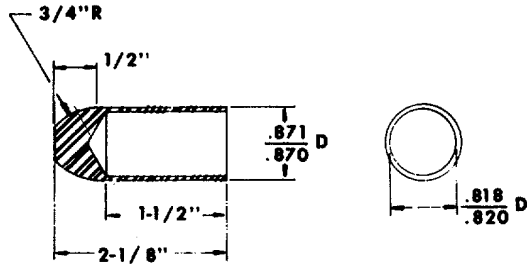

Fig. 25
- Place a protective cap over the slip rings before assembling the slip ring housing assembly to the rotor and drive end housing assembly. The cap protects the slip rings from contamination and aligns the seals. Refer to Figure 25 for details of cap construction.